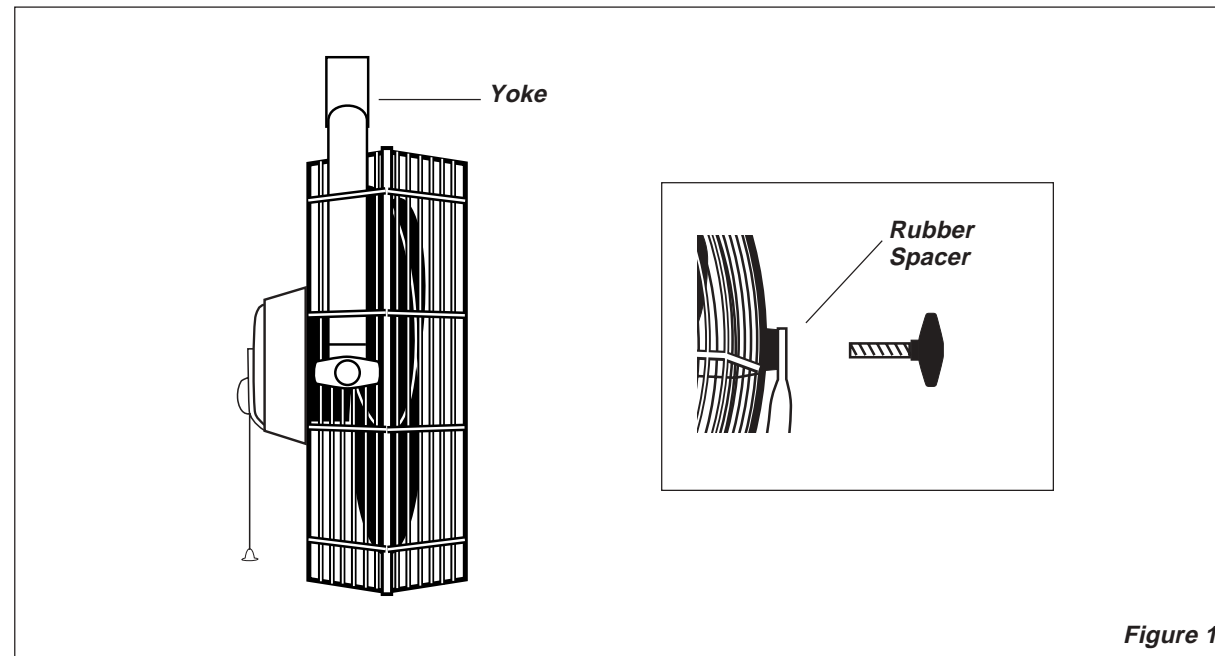

Figure 1
6. Align Yoke with grill mounting threads. Loosely attach one Grill Knob and one Rubber Spacer to the Head Assembly. Attach the other Grill Knob and Rubber Spacer to the Head Assembly and FIRMLY tighten. Return to the first Grill Knob and FIRMLY tighten. (Figure 1)